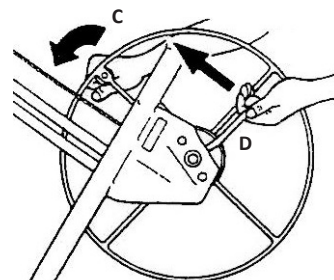

FIG. 2
- Hold the winch wheel and brake arm (Figure 2). Turn the winch wheel slightly forwards (C) while lifting the brake arm to release the brake.